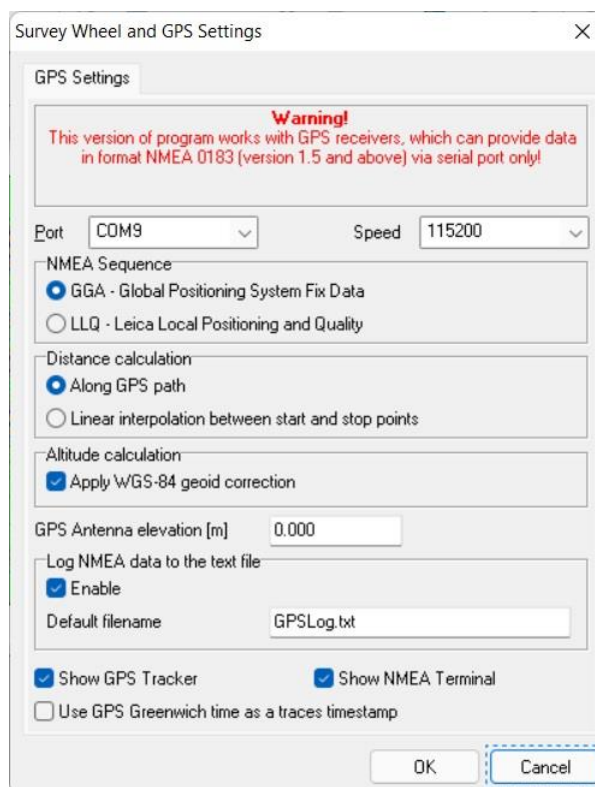

Fig.8.5. GPS/GNSS settings
- **GPS** - global positioning system or GNSS - global navigation satellite system (it combines signals from different satellite navigation systems as GPS [USA], GLONAS [Russia], GALILEO [European Union], BeiDou [China], NavIC/IRNSS [India] and QZSS [Japan]). Software supports GPS/GNSS receivers which outputs coordinates in NMEA 0183 format (version 1.5 and higher). The latitude and longitude are recorded in the header of each trace, which are used to calculate the current coordinate of the trace and the traveled distance. The GPS/GNSS settings for pairing with the GPR and its data presented in GPS settings window (Fig. 8.5).